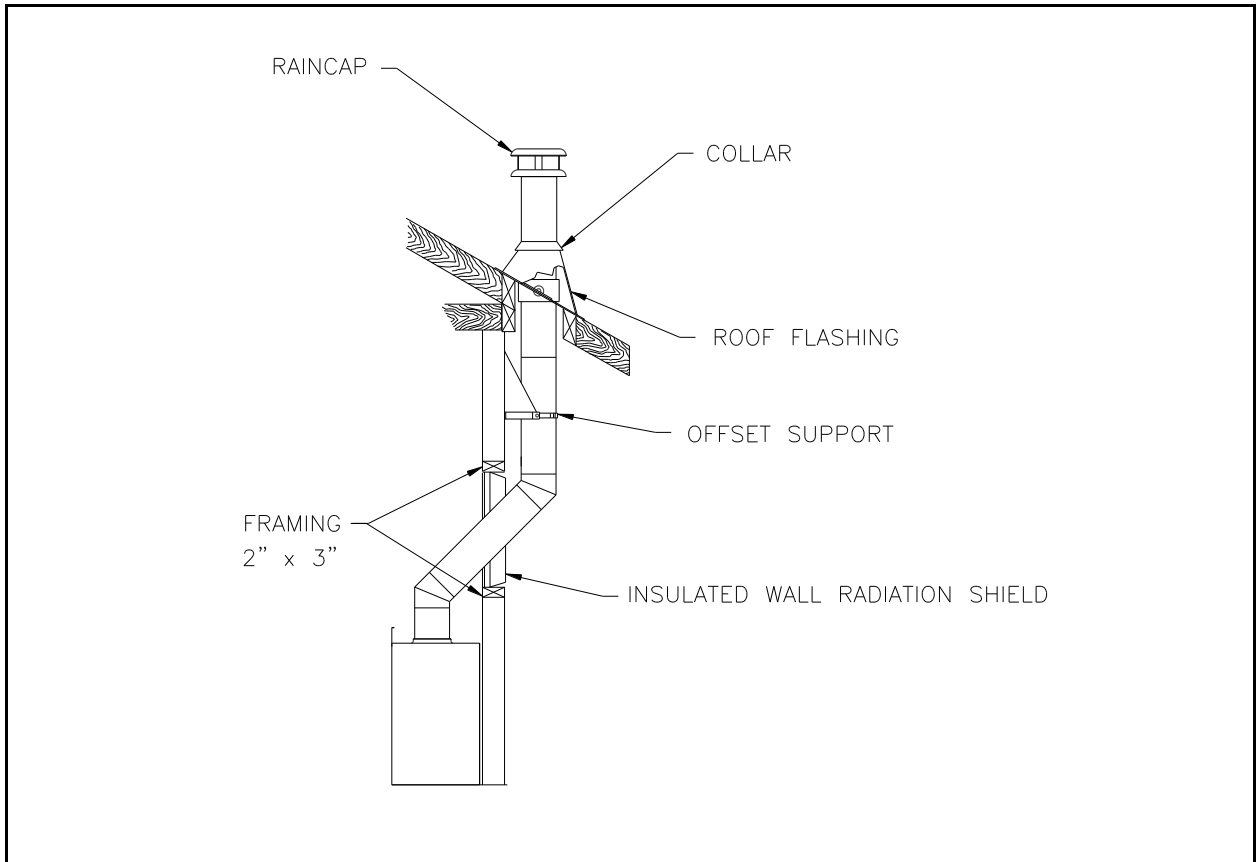

Figure 32
1. Install the first elbow; turn it in the required direction. Fasten it to the chimney with the three (3) _" (12 mm) metal screws provided with the elbow.
2. Install the necessary chimney lengths to achieve the required offset. Lock the chimney lengths together: it is recommended to use three (3) _" (12 mm) screws. If the offset length is made of two (2) chimney lengths or more, use an offset support halfway up the offset. If penetrating a wall, install a wall radiation shield (see figures 32 & 33).
3. Use another elbow to turn the chimney vertically. Secure the elbow, using three (3) _" (12 mm) screws (provided with the elbow).